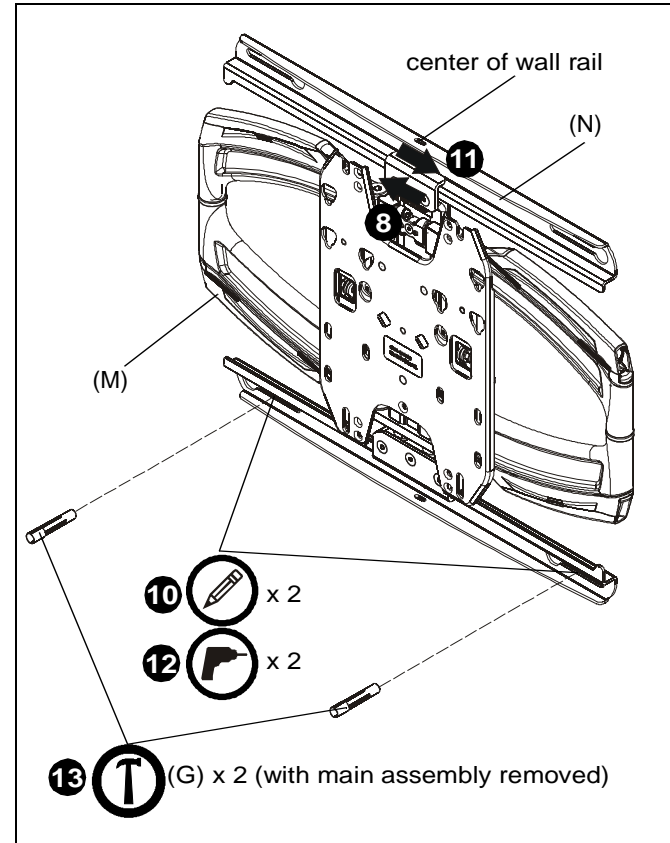

Figure 8
8. Slide main assembly (M) onto wall rail (N). (See Figure 8)
9. Center main assembly (M) over wall rail (N). (See Figure 8)
10. Mark two holes at lower mounting holes. (See Figure 8)
11. Slide main assembly (M) off wall rail (N). (See Figure 8)
12. Drill two 3/8" holes at marked locations. Holes should be 2 1/2" in depth. (See Figure 8)
13. Install two concrete anchors (G) into drilled holes. (See Figure 8)